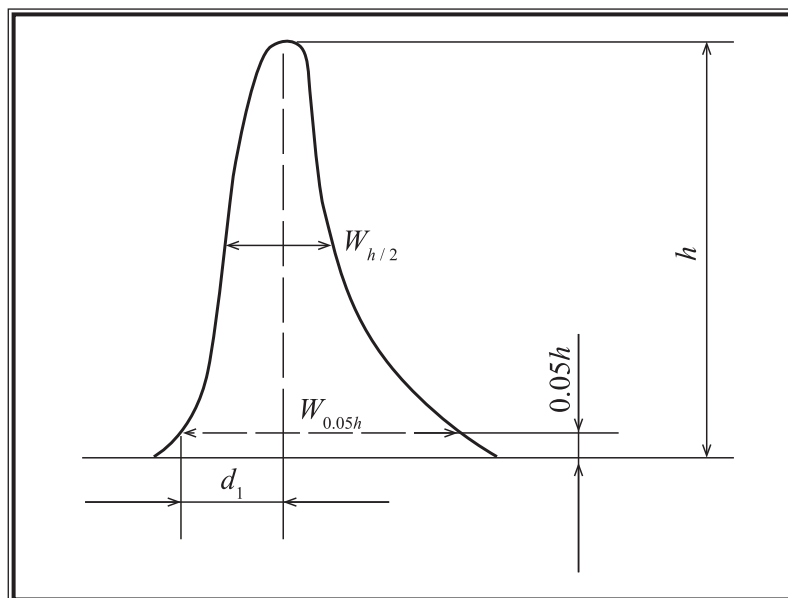

Figure 2 Parameters for calculation of tailing factor ( $T$ )
- (d) **Tailing factor (*T*)** – It is necessary to inspect the *T* value (Fig. 2) of the peak, especially when using the peak height method. It should comply with the requirement specified in the individual monograph. The *T* value is calculated by using the following equation –